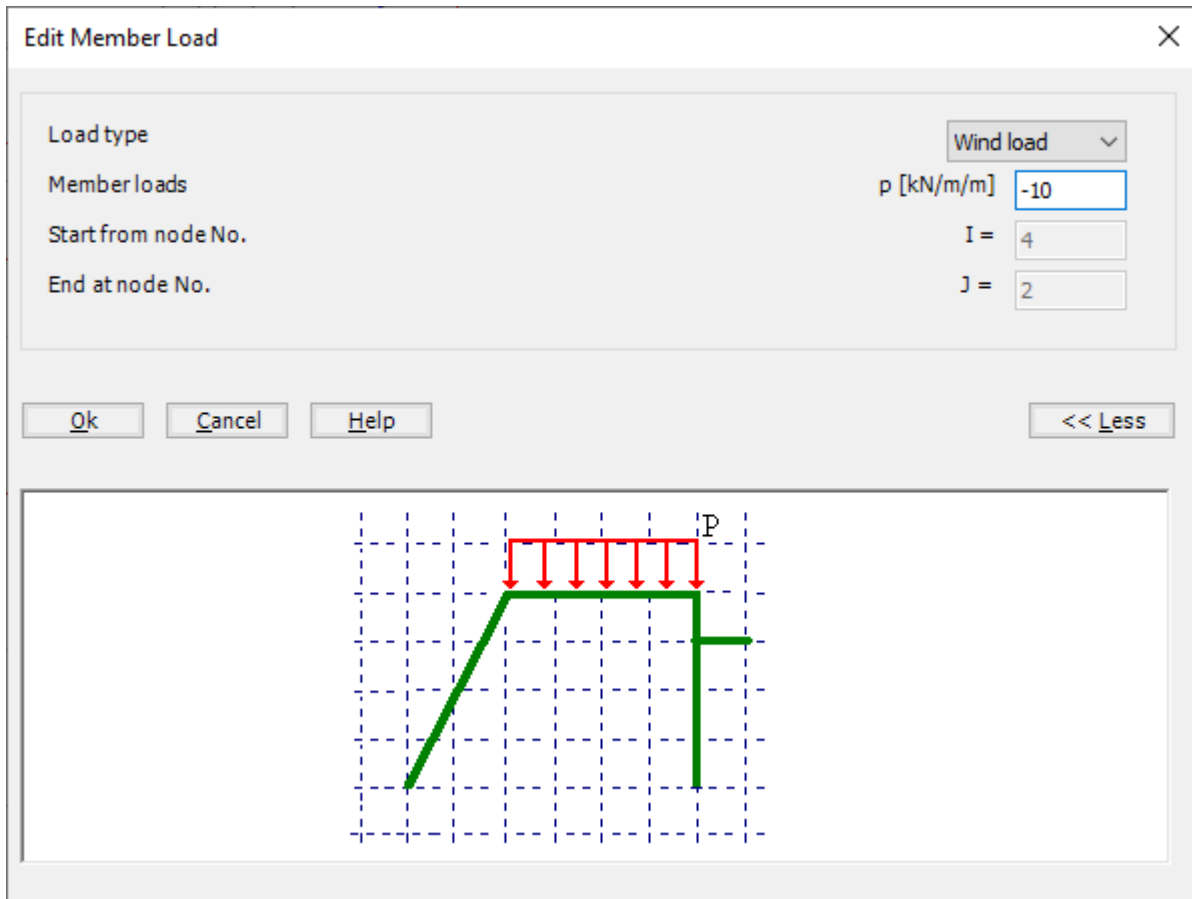

Figure 11.22 "Edit Member Load" dialog box
- "Edit Member Load" dialog box in Figure 11.22 appears, type "-10" in "Member loads" edit box